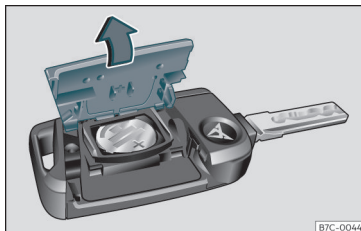

Fig. 67 Vehicle key: opening the battery compartment cover.
- Remove the cover from the back of the vehicle key »» Fig. 67 in the direction of the arrow »» ⓘ.
- Fit the cover as shown »» Fig. 67, pressing it onto the vehicle key casing in the opposite direction to that shown by the arrow until it clicks into place.